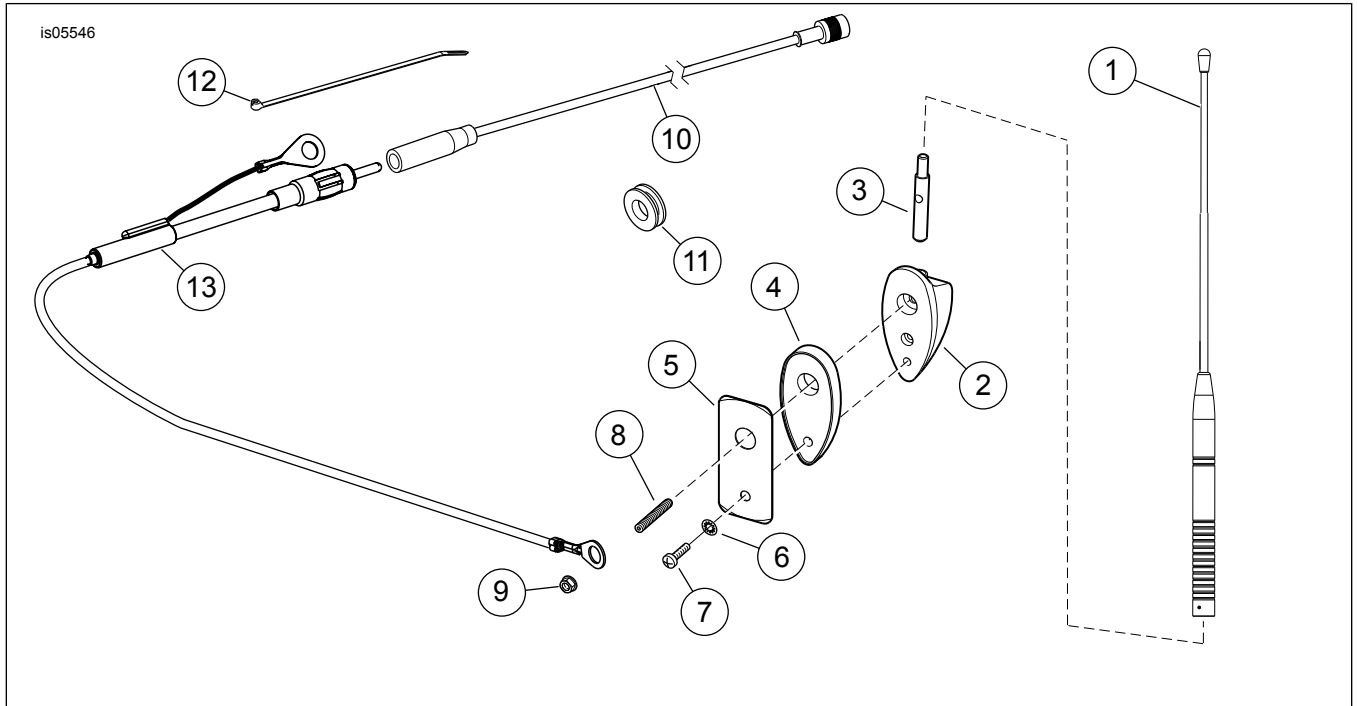

Figure 4. Service Parts: Advanced Audio CB Antenna Kit
See Figure 4 and Table 1.
1. See Figure 4. Insert the adapter (3) into the hole on the **top** of the antenna base (2).
2. Line up the threaded hole in the **SIDE** of the adapter with the upper hole on the back side of the base. Insert the threaded stud (8) into the **upper** hole on the back side of the base, and thread the stud into the hole in the adapter. Tighten the stud securely.
3. Assemble the base gasket (4) to the antenna base.
4. With the adapter (3) facing **up**, position the base assembly over the holes drilled earlier in the outside rear Tour-Pak wall. Be sure the threaded stud (8) goes through the larger (top) hole.
5. Place the antenna reinforcement plate (5) in position inside the Tour-Pak. Place the ring terminal over the antenna mast stud. Use the hex nut with lock washer (9) to attach the cable extension, but do not fully tighten at this time.
6. Install the TORX® screw (7) and small lockwasher (6) through the smaller (bottom) hole of the antenna reinforcement plate into the antenna base. Tighten the screw securely. Tighten the hex nut securely.
7. Install the antenna mast (1) onto the antenna base adapter (3).